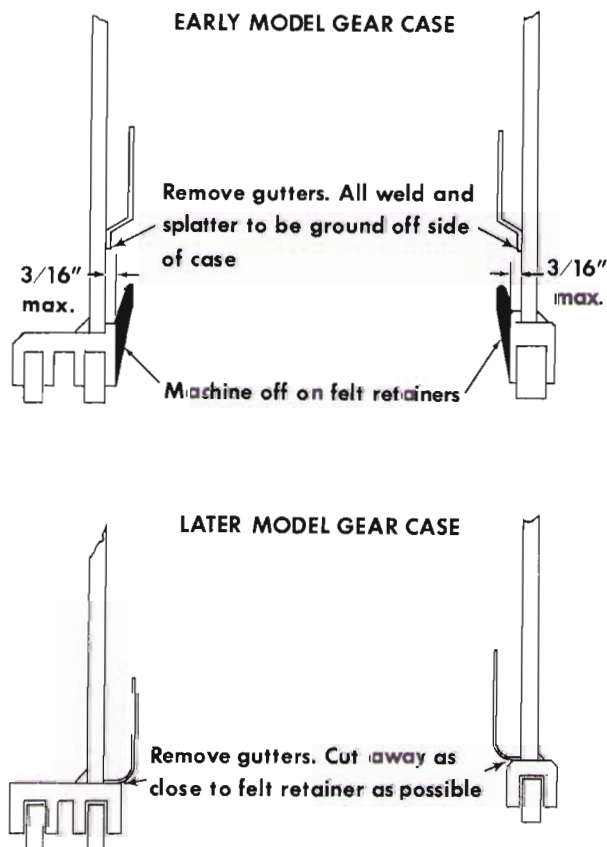

Fig. 1 - Previous Gear Cases
2. Remove the gutters from over the axle openings on both sides of the gear case, refer to Fig. 1. Do not remove the gutter which is over the pinion opening. On early model gear cases having a one piece gutter and seal retainer, the gutter must be removed
by machining with a fly-cutter, Fig. 1. Remove all burrs and burning slag from the area where gutters were removed.